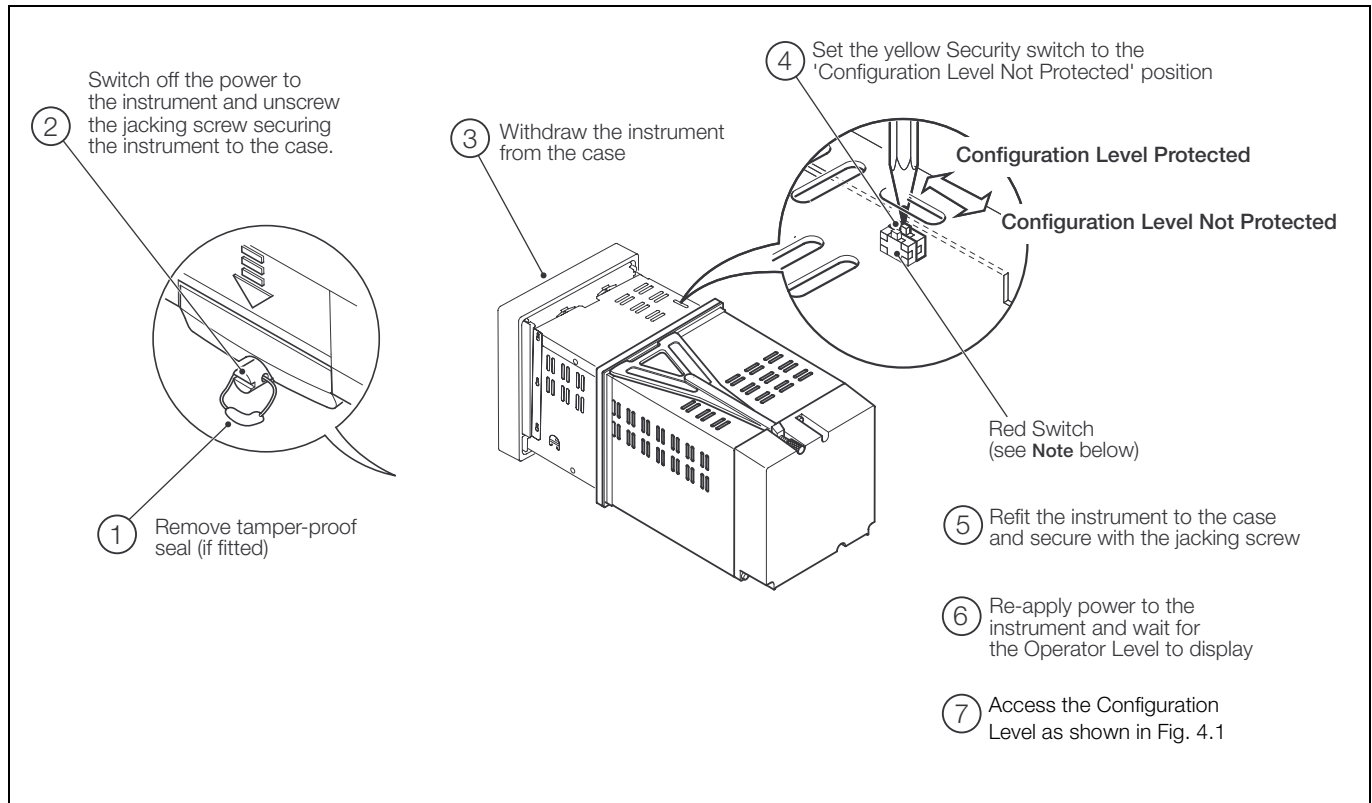

Fig. 4.2 Setting the Security Switch
The Configuration level cannot be accessed until the instrument is withdrawn from its case and the internal switch set to the 'Configuration Level Not Protected' position – see Fig. 4.2, page 47.
Internal Security Switch Setting (see Fig. 4.2, page 47)	'Configuration security type' Parameter Setting (see Section 4.4.4, page 56)
- Set the internal security switch to the 'Configuration Level Not Protected' position – see Fig. 4.2, page 47.